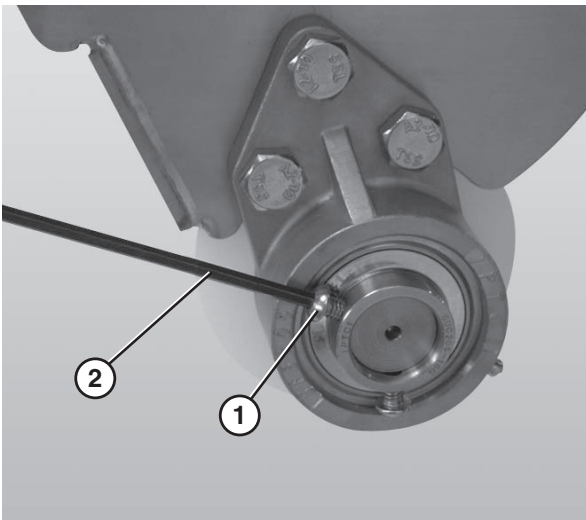

Figure 57
6. Loosen the 3 hole flange (**Figure 57, item 1**) with bearing fasteners using a hex wrench (**Figure 57, item 2**).